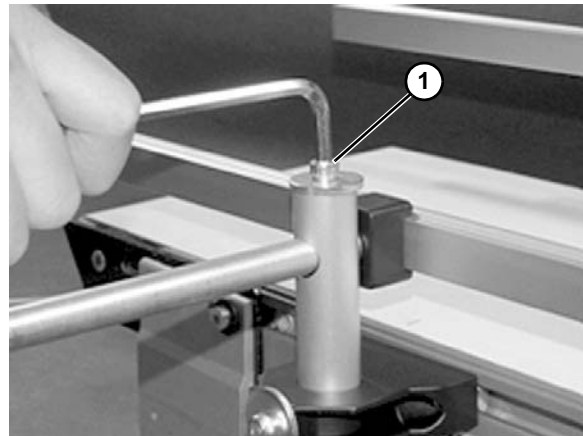

Figure 67
6. Adjust rail width with top screw (**Figure 67, item 1**).